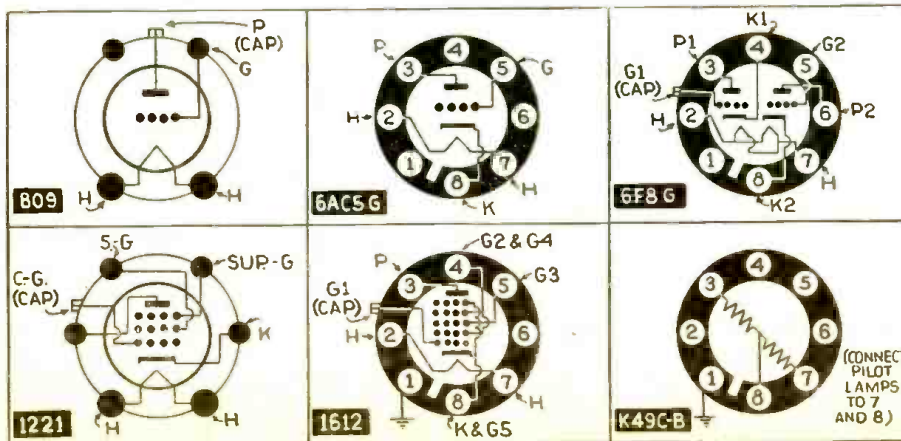

Fig. 1. Although the symbols are somewhat conventional the characteristics differ widely.
809 R.F. Power Amplifier, Oscillator, and Class B Modulator Triode. The 809 is a 3-electrode transmitting tube of the high- μ type for use as a (1) radio-frequency amplifier, (2) oscillator, or (3) class B modulator and (4) audio-frequency amplifier. (See Fig. A; terminal connections are given in Fig. 1.)
Fig. 1. Socko!—A bright young OM gets an idea on how to enliven the Ham-radio hobby. Soon the old cobwebs will be dusted away and the "rig" will be perking once more; but along new lines.